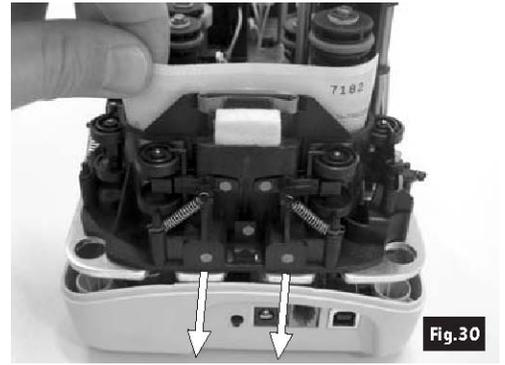

Fig.30
- 2 To remove the "U" track wall see Fig.30. Please follow the instructions listed in chapter 5.1.2.